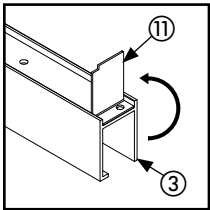

Figure 8. Marking End Cap on Rail
1. Place an end cap ⑪ inside the rail ③, ensuring it fits flush with end of the rail.
2. Rotate the end cap to the top of the rail as shown in Figure 8.